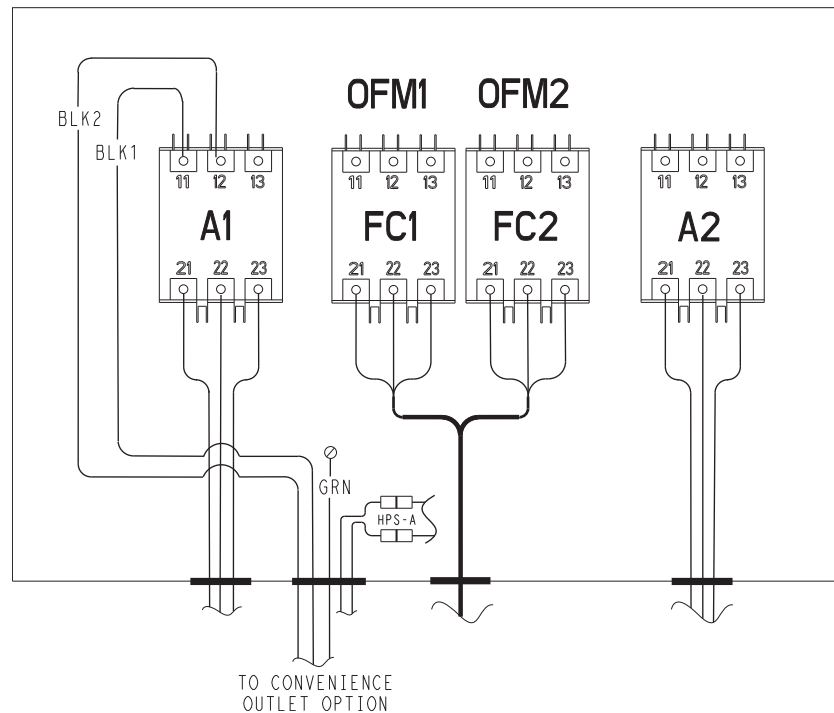

Fig. 3 — Accessory Convenience Outlet Control Box Wiring — 30RAP010-030 (Shown), 38APS,APD025-030 Units
9. In the control box, attach the black wire labeled 1 to the 11 connection on the A1 compressor contactor. Attach the black wire labeled 2 to the 12 connection. Attach the green ground wire to the ground terminal in the control box. See Fig. 3.